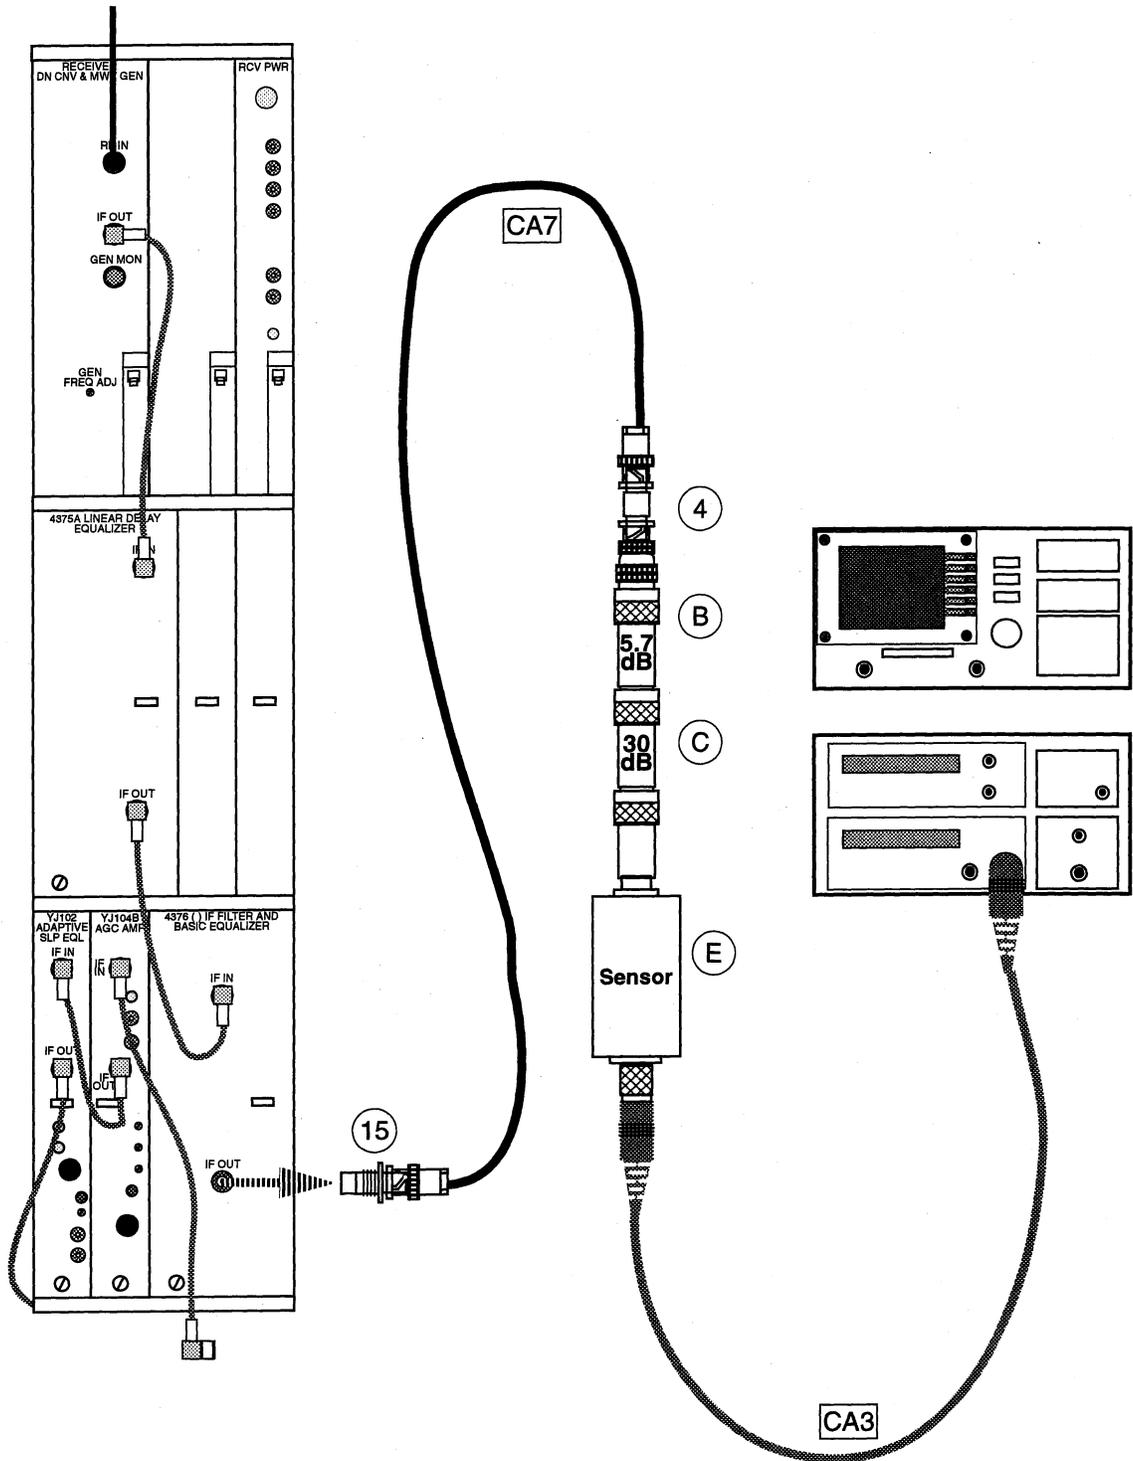

Figure 12. IF Filter and Basic Equalizer IF OUT Level (Non-DIV)
- b. Connect the power meter to the IF OUT jack as shown in Figure 12.